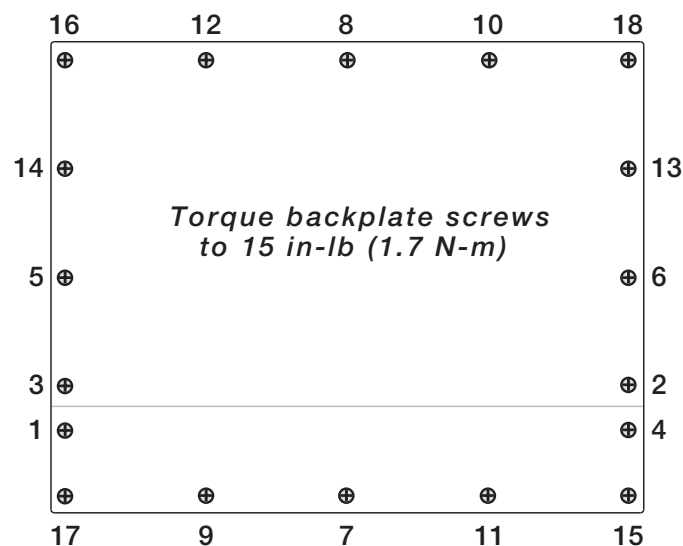

Figure 3-1. 920i Enclosure Backplate
3. Torque screws to 15 in-lb (1.7 N-m), using pattern shown in Figure 3-1, to prevent distorting the back plate gasket.
4. Re-install the backplate (Figure 3-1 on page 10).